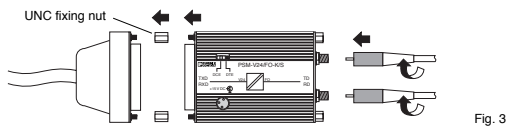

Fig. 3
- Insert the module in series in the transmission line (see Fig. 3)